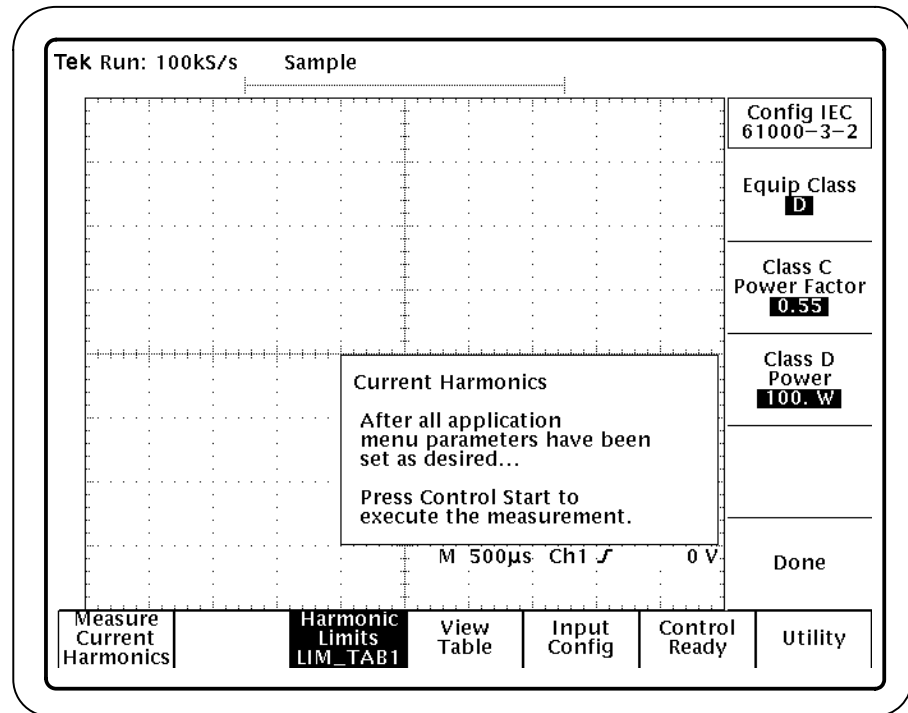

Figure 32: Config IEC 61000-3-2 configuration menu
5. Press Config IEC 61000-3-2 (side). Figure 32 shows the Config IEC 61000-3-2 menu.